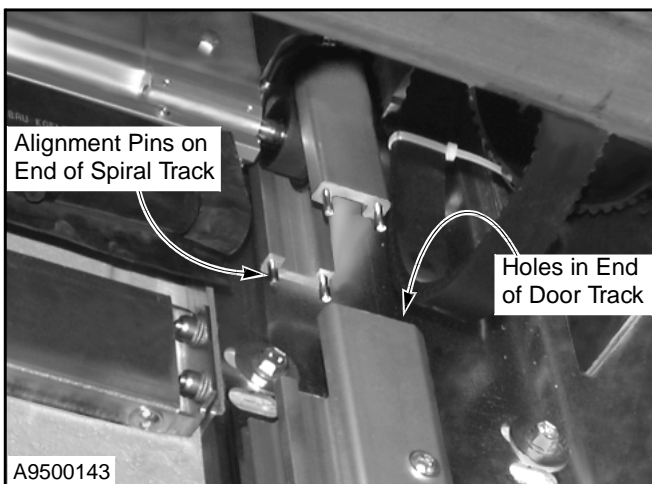

Figure 24
- Now the straight length of door track in each side column can be slid into position. Located in the upper end of each track is a grouping of four holes. These holes mate with a set of alignment pins that are located on the end of each spiral track. (See Figure 24.)